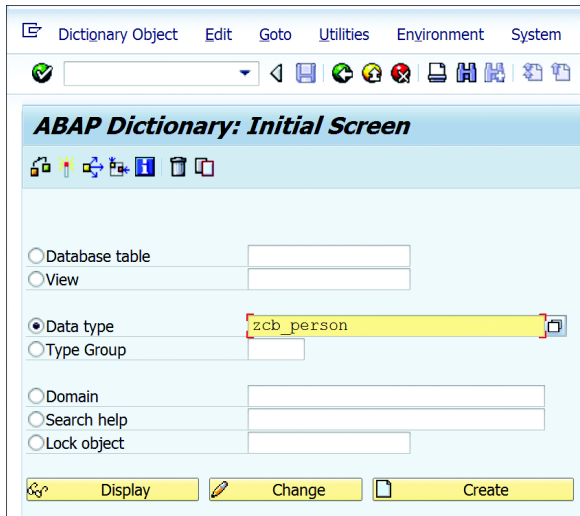

Figure 4.8 ABAP Data Dictionary: Initial Screen
2. Select the DATA TYPE radio button, provide a name for your data element in the field to the right of the button, and click the CREATE button. Because the data elements are repository objects, they should exist in a customer namespace (i.e., the data element name should start with Z or Y; see Figure 4.8).